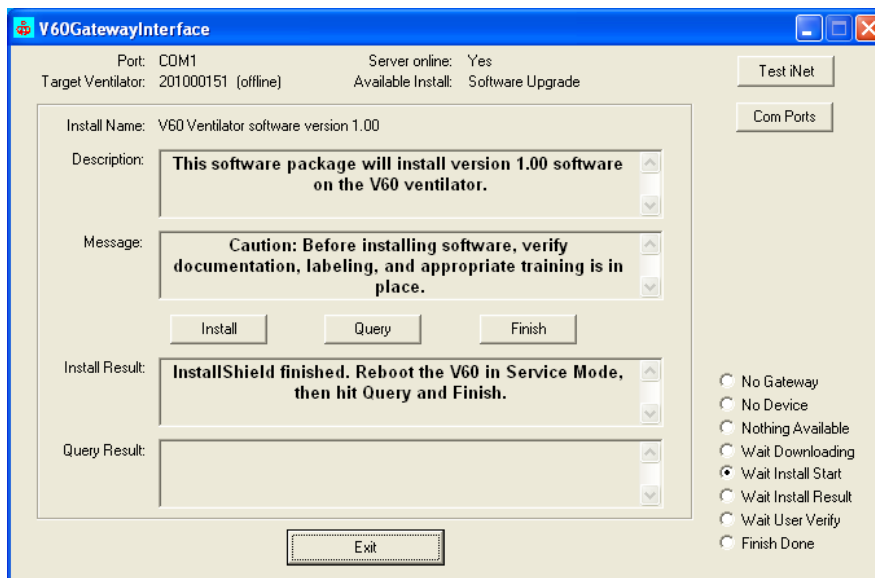

Figure A-8: Installation Confirmation Screen
19. Touch **Service** and verify that the Software Version is the same as the version listed on the GatewayInterface screen (Figure A-8).